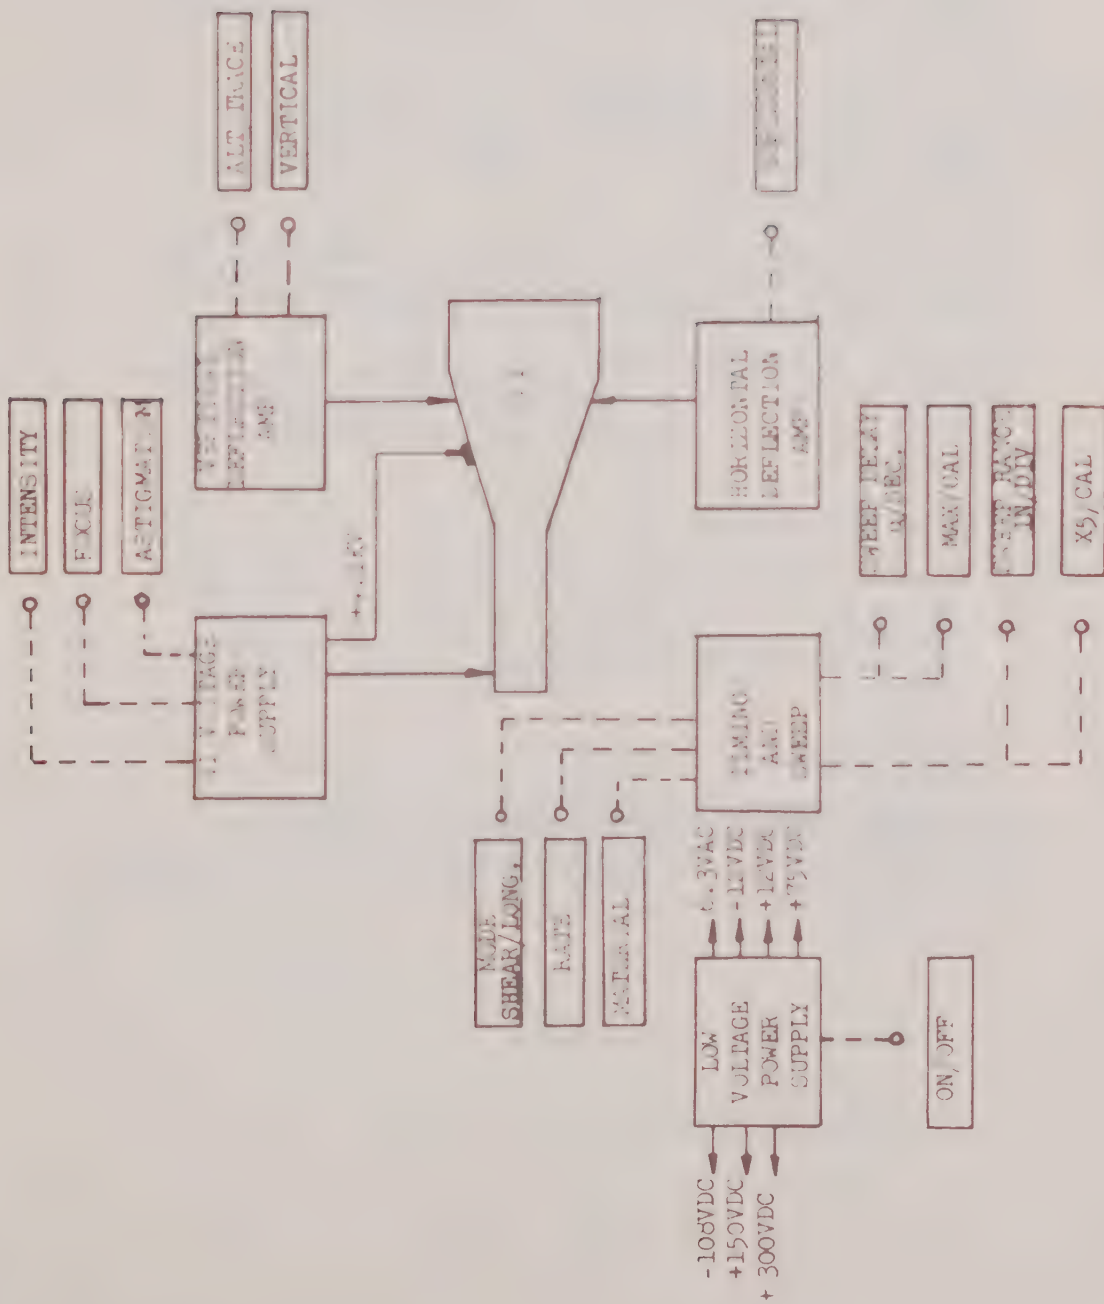

Figure 3-2 Block Diagram of the Timer Display UM-771, 775 Reflectoscope
- ① ASTIG.....CRT Astigmatism Control
- ② INT.....CRT Intensity Control
- ③ FOCUS.....CRT Focus Control
- ④ ALTN.....Alternate Trace Control
- ⑤ HORIZ.....Horizontal Centering Control
- ⑥ VERT.....Vertical Centering Control
- ⑦ Power - Main Power ON/OFF Switch
3.2.1.2 Trace Adjustment Controls (See Block Diagram Figure 3-2)